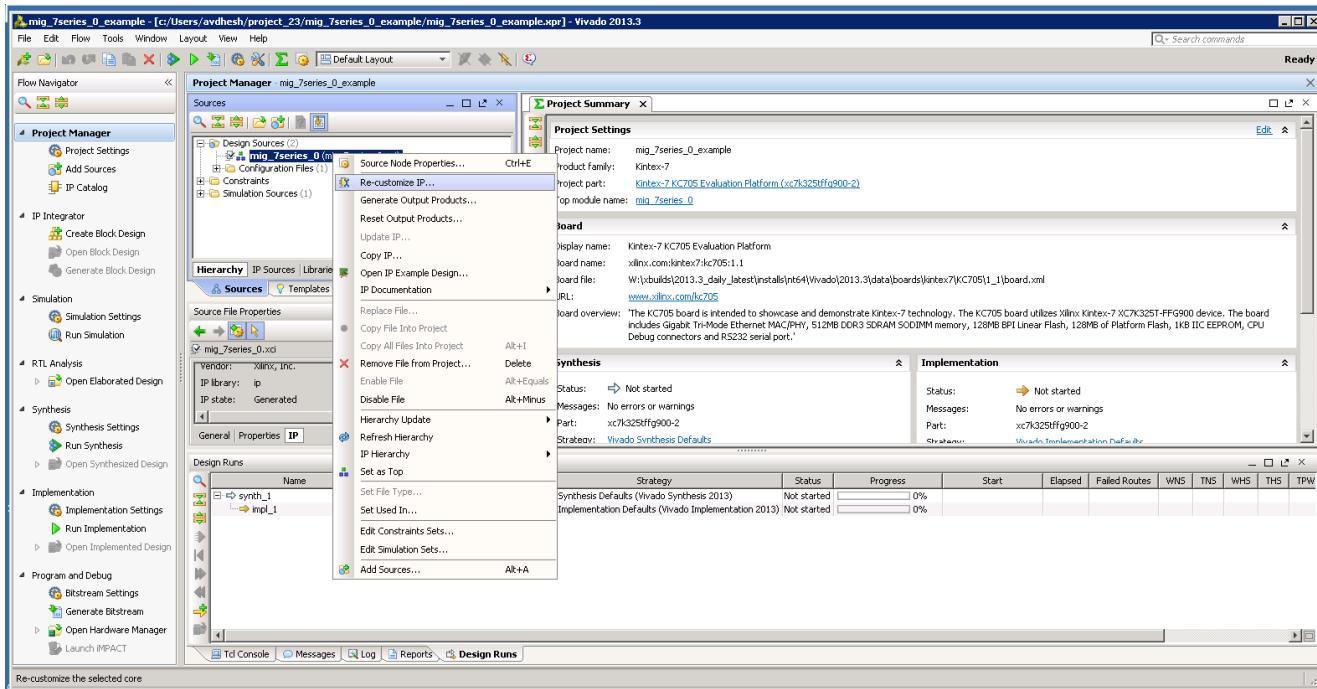

Figure 2-37: Recustomize IP
- Recustomization of the MIG IP core can be done by using the **Recustomize IP** option. It is not recommended to recustomize the IP in the example_design project. The correct solution is to close the example_design project, go back to original project and customize there. Right-click the XCI file and click **Recustomize IP** (Figure 2-37) to open the MIG GUI and regenerate the design with the preferred options.